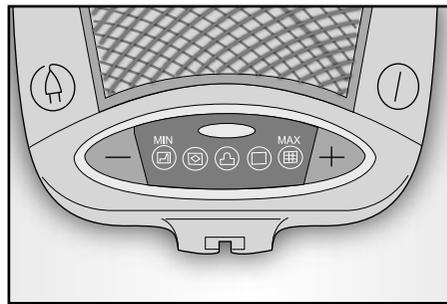

Fig. 5
First of all, before using this appliance, unwind the power cord fully and plug it in. To switch on, press the On/Off switch (G) on the vacuum cleaner (FIG. 5).
It's possible to set the suction power by pressing the +/- keys on the relevant panel (F) (FIG. 5); each time you press the "+" or "-" key, one of five icons will light up indicating recommended places for using this specific level of power.